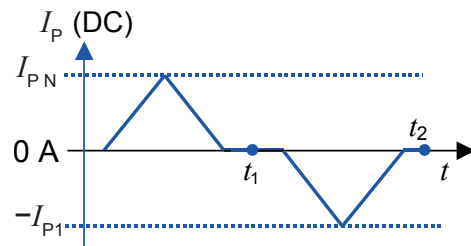

Figure 14: Current cycle used to measure magnetic and electrical offset (transducer supplied)
- or in a known magnetization state, like in the current cycle shown in figure 14.